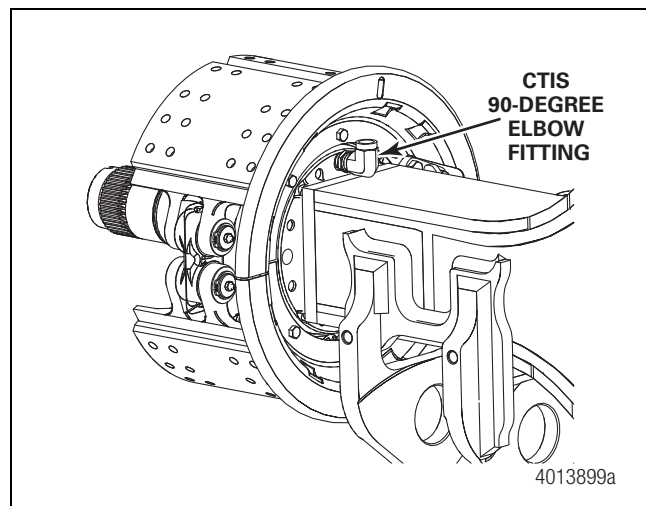

Figure 5.21
17. If equipped with the optional CTIS feature, install the 90-degree elbow fitting into the fitting bushing and tighten to 20 lb-ft (27 N•m). Connect the CTIS air line to the elbow. Figure 5.21.